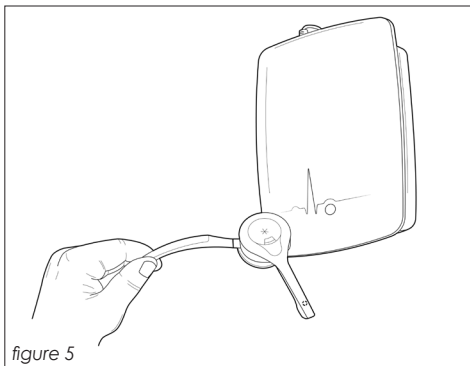

figure 5
- To register a headset to the base station, take one headset at a time out of the charger and hold the outside face of the headset to the bottom of the base. *(figure 5)*